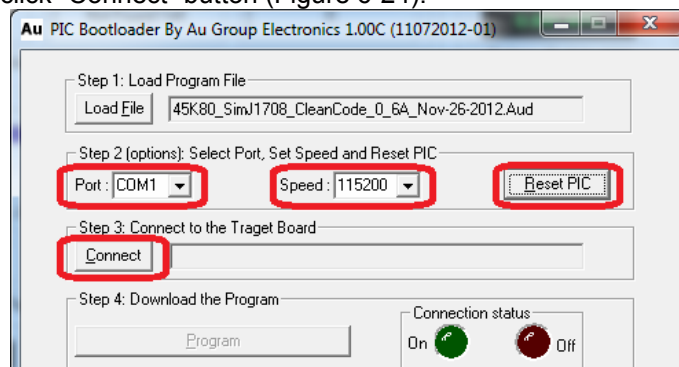

Figure 6-24
- Within 10 seconds, click “Connect” button (Figure 6-24).